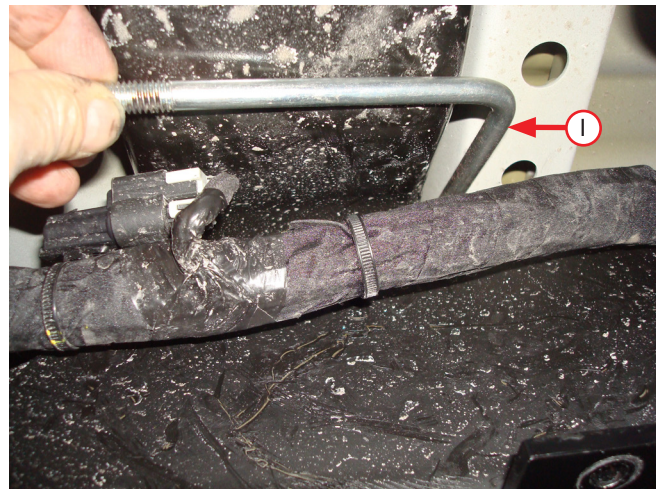

Fig. 21
8. Hold the L-bolt (I) parallel to the frame, insert the eye through the top of the frame from the inside out between the 5th wheel bracket and bed crossmember (Fig. 21).